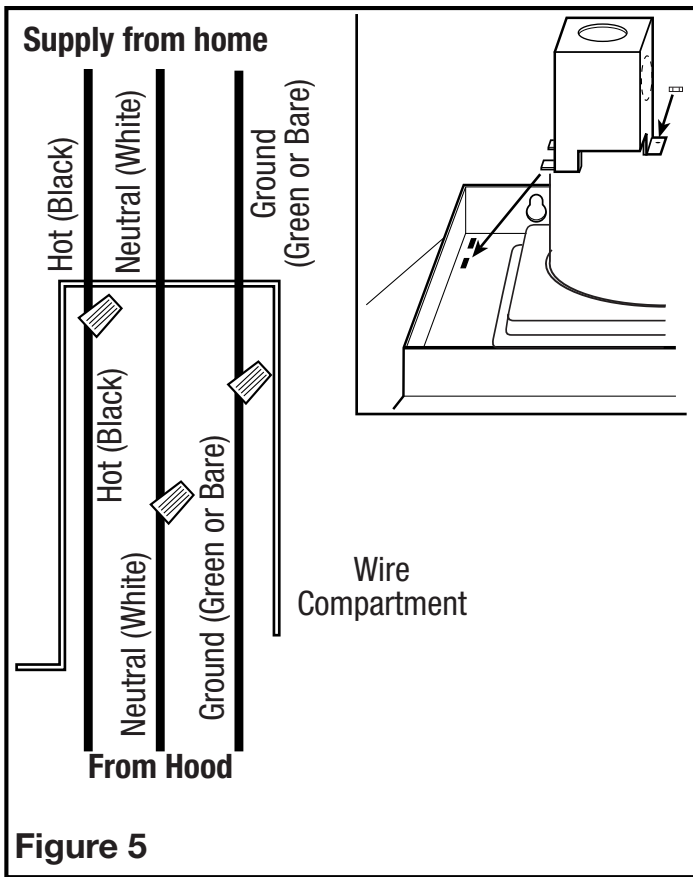

Figure 5
3. Connect the White wire from the range hood to the White wire from the supply, and the Black wire from the range hood to the Black wire of the supply. Connect the ground wire from the home (green or bare) and the Green wire from the range hood. Use approved methods for all connections. Reinstall the wire compartment by sliding the tabs back into the holes then reinstalling the screw that was removed earlier. Make sure all wiring is securely contained within the wire compartment (**Figure 5**).